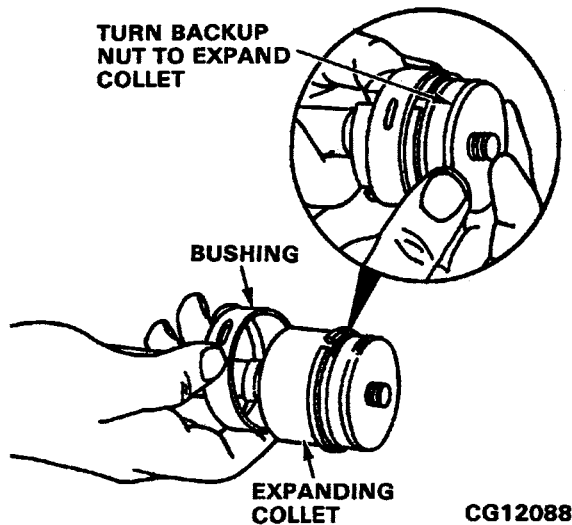

Figure 5.23. Install Bushing on Installer Tool
3. Install the new bushing onto the expanding collet and tighten the collet by turning the back-up nut until the bushing is held securely. Refer to Figure 5.23.